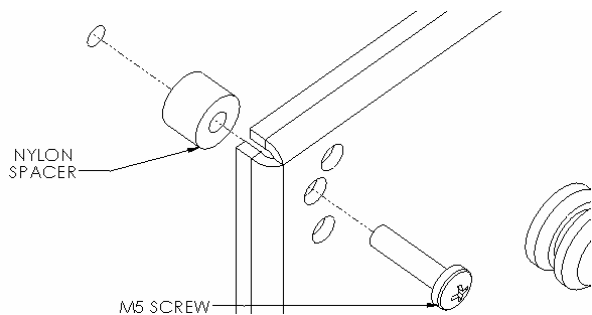
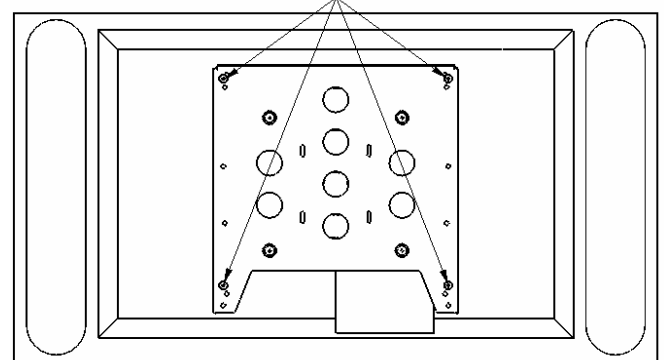
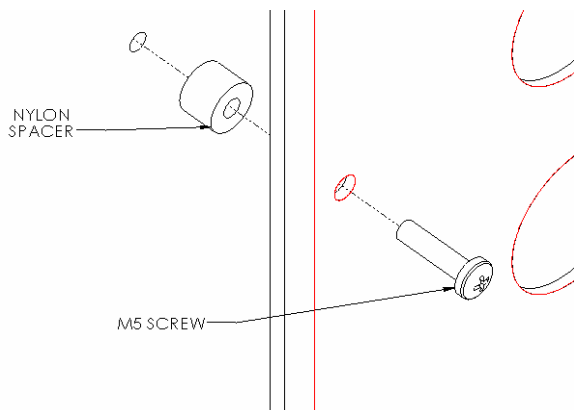
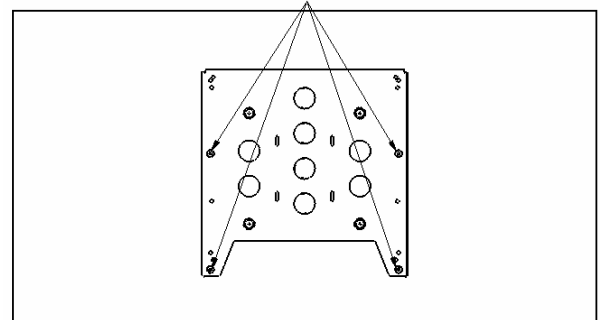

Figure 6
Figure 7
Figure 8
Figure 9
4. **Bracket Installation:** Attach bracket to back of display using the M5 screws and nylon spacers (see Figure 6 & Figure 7 for MSB-6098 and Figure 8 & Figure 9 for MSB-6392). Do not over tighten screws.